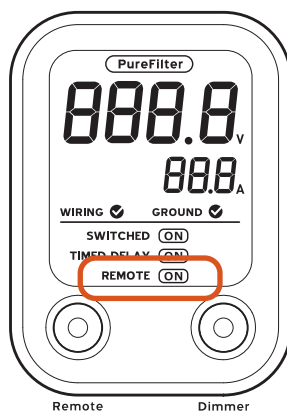

Figure 2b
- B. Press the "Remote" button on the front of the Power Console to turn on the remote function. The LCD display should read "REMOTE ON". (Fig. 2b)